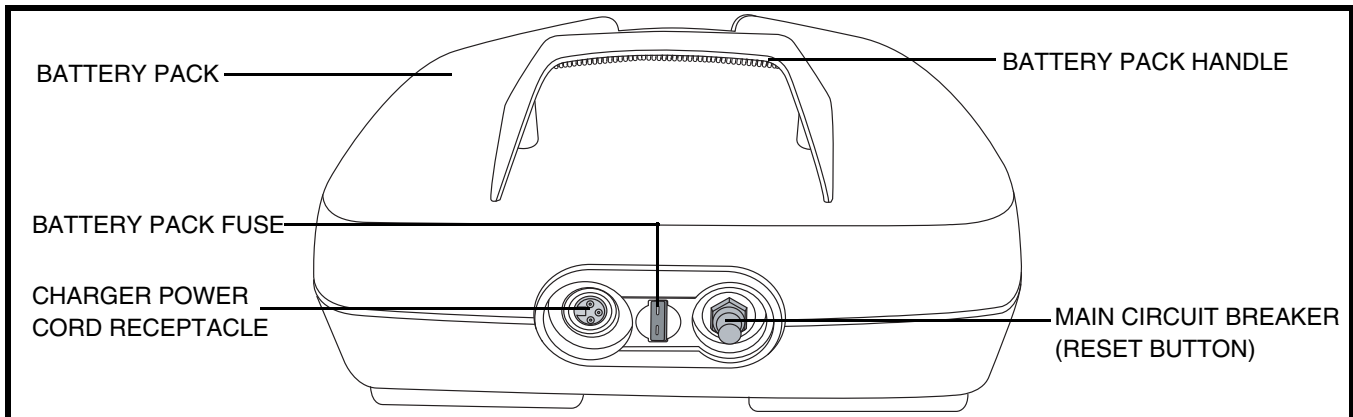

Figure 7. Battery Pack
Your Travel Scooter is equipped with an innovative, easy to remove battery pack. A handle on the top of the battery pack makes it easy to lift the pack off of the Travel Scooter with one hand. The battery pack contains two batteries, the charger power cord receptacle, the main circuit breaker (reset button), and the battery pack fuse. See figure 7.
- Ensure that the fuse on the battery pack is in working condition. **See figure 7.**